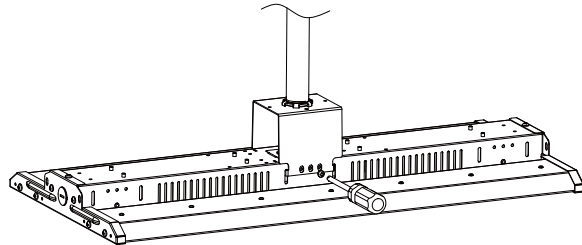

Figure3
- Step2. Lock fixture on the bracket (Figure 3);